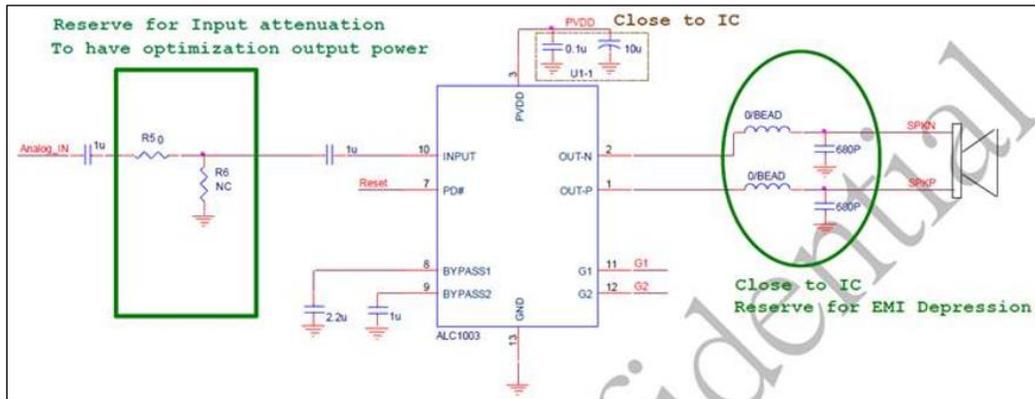

Fig 24-18 Reference design of using D type power amplifier
- If the power amplifier is a D type amplifier, refer to the design shown in Fig 24-18 (power amplifier is ALC1003).